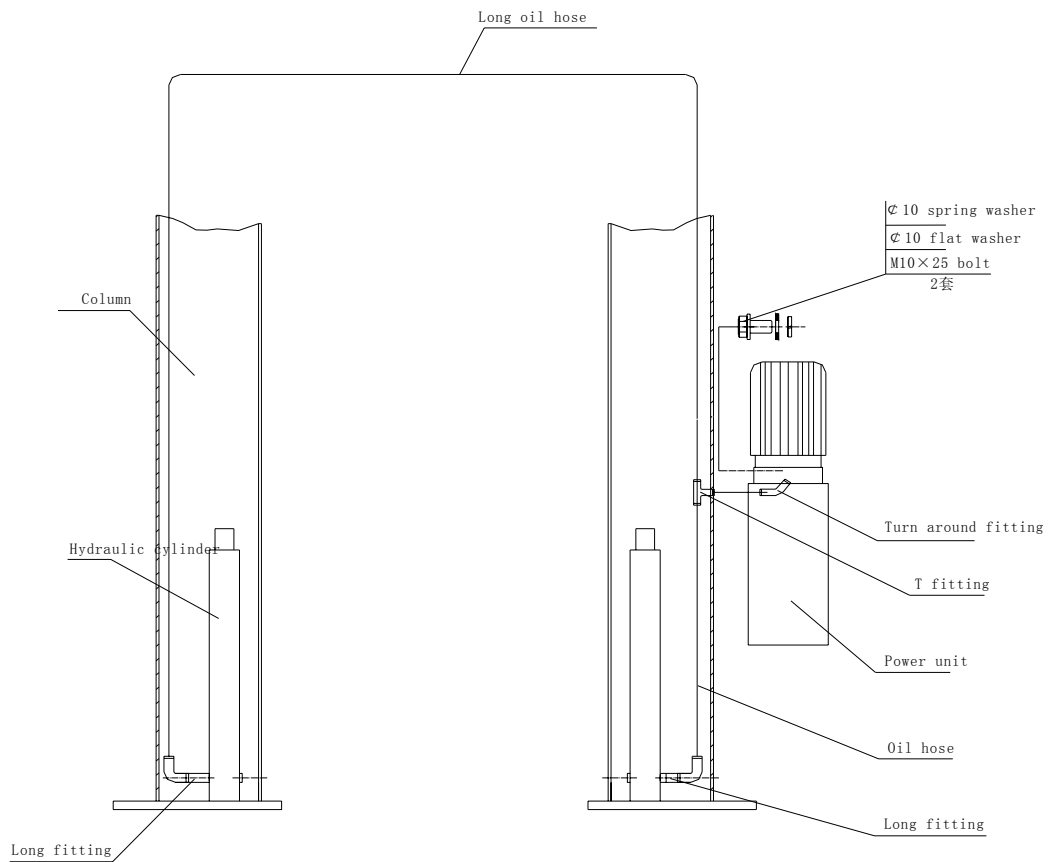

Fig. 10
- Use two M10 bolts and gaskets to fix the power unit. as shown in Fig. 10, install the hydraulic line, and tighten all the fittings to prevent oil leakage.